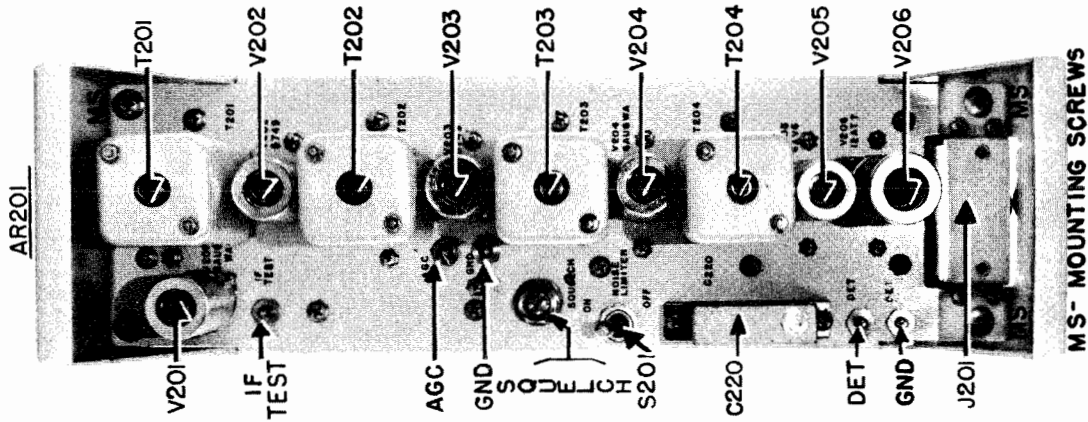

Figure 1-9. IF Sub-Chassis Assembly, Top View
e. IF SUB-CHASSIS ASSEMBLY.—This sub-chassis, illustrated in figure 1-9, contains the 2nd mixer, three Mc IF amplifiers, the detector-AGC-squelch tube and the noise limiter-1st audio tube. All 3 Mc IF transformer slugs must be adjusted from the top and bottom of the chassis. Four feed-through test point terminals provide access to alignment points. The noise limiter switch (S201) and a slotted shaft squelch threshold control potentiometer (R216) are accessible from the top of the chassis.